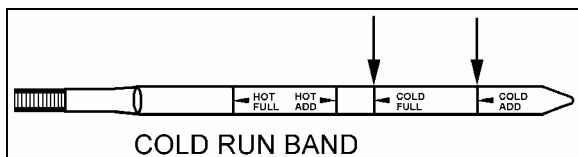

FIGURE 5: COLD CHECK
2. Run the engine for at least one minute. Shift to Drive (D) and operate the engine for 30 seconds at 1000-1500 rpm; then shift to Reverse (R) to clear the hydraulic system of air. Finally shift to Neutral (N) and allow the engine to idle (500 - 800 rpm).
3. While the engine is running, remove the dipstick from the tube and wipe it clean (Figs. 5 & 6).
4. Insert the dipstick into the tube and then remove, checking the oil level reading (Fig. 5). Repeat the check procedure to verify the reading. If the oil reading is within the "Cold Run" band, the level is satisfactory for operating the transmission until the oil is hot enough to perform a "Hot Run" check. If the oil reading is not within the "Cold Run" band, add or drain oil as necessary to bring the level within the "Cold Run" band.